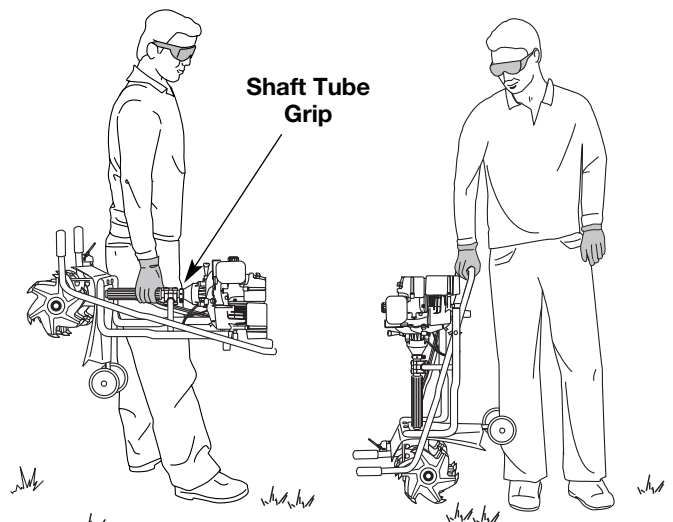

Fig. 20
4. Either carry the unit by the shaft tube grip or grasp the center of the handlebar to use it as a carrying handle (Fig. 20).